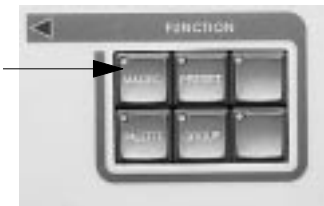

Figure 10.1. FUNCTION Group
1. Press the <MACRO> key in the FUNCTION group. Refer to Figure 10.1.